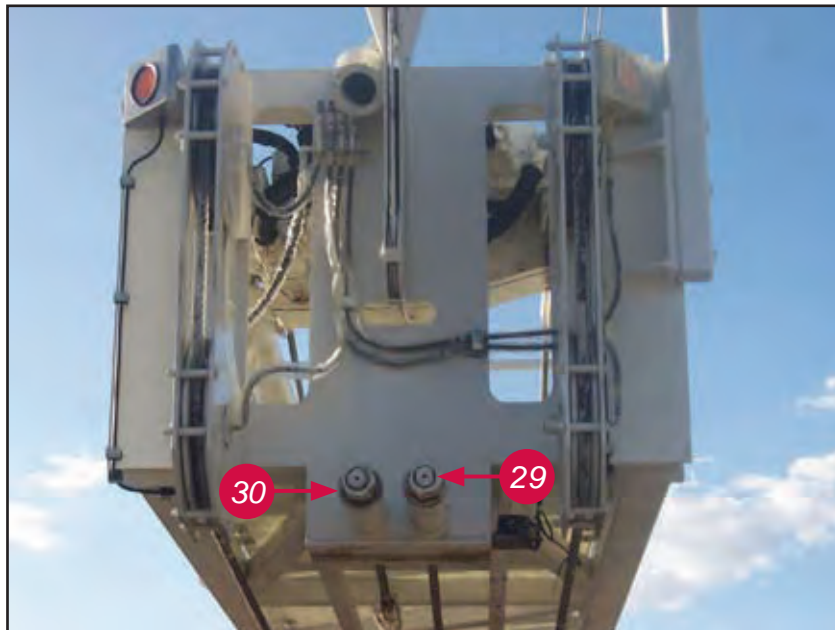

Fig. 6-11 Mast Crown
Step 3: Once the bottom ropes are hanging exactly the same apply minimal feed pressure (aprox 500-600psi) to bring the cable slack onto the hoist cables, then activate the Auto feed to maintain the determined pressure. Check the hang of the top ropes and adjust both ropes to exactly the same hang, using the hoist cable adjusting nuts (Fig 6-11).